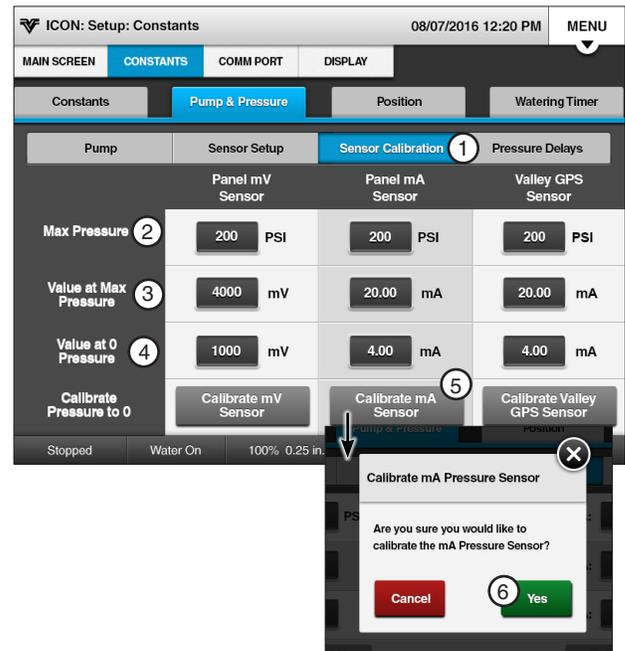

Figure 23-1 1. Sensor Calibration 4. Value at 0 Pressure
2. Push **Menu, Setup, Constants, Pump & Pressure** and push the **Sensor Calibration** button to display the Sensor Calibration screen. Refer to Figure 23-1.